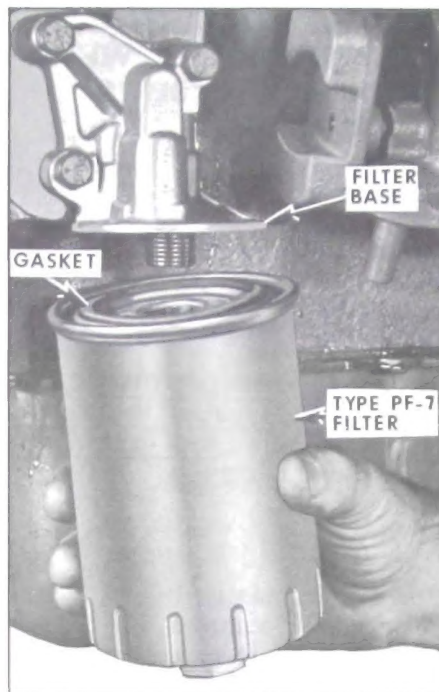

Figure 1-4—Oil Filter Installation
indicated. Check filter area for leaks after engine has run for five (5) minutes. See Figure 1-4.